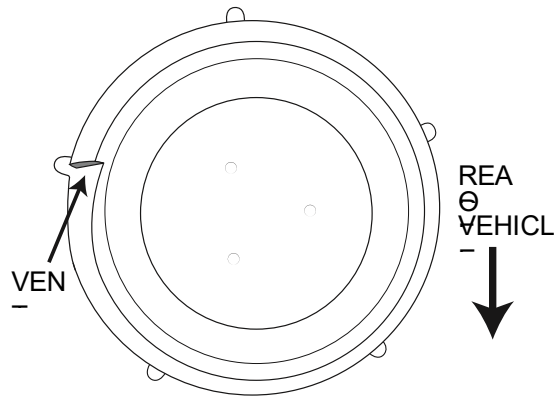

Figure 24
2. Install the Pre-Filter. This must be installed with the vent to the rear of the vehicle (Fig. 24).